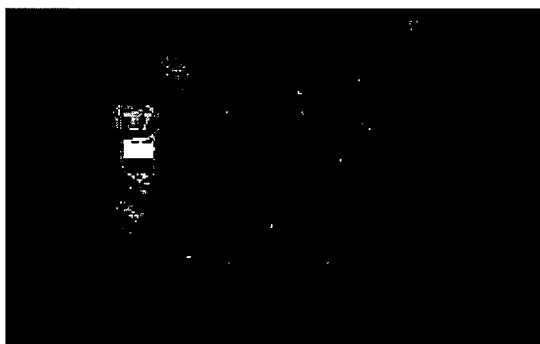

Figure 20
4. Make sure the recovery tank lid is on correctly (see figure 20).
5. Make sure the Screen filter over the vacuum motor is clean and in position (see figure 20).